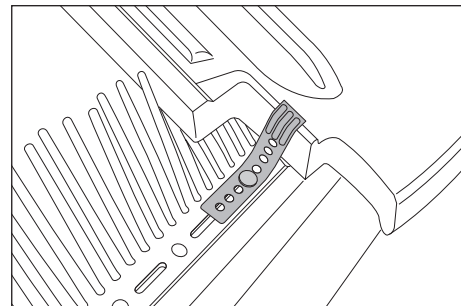

Fig. 45 – Eaves clip and comb filler
- 2 All eaves course tiles should be twice fixed; nailed and/or clipped using a purpose-made Melodie eaves clip nailed to the fascia or tilting fillet (Fig. 45).